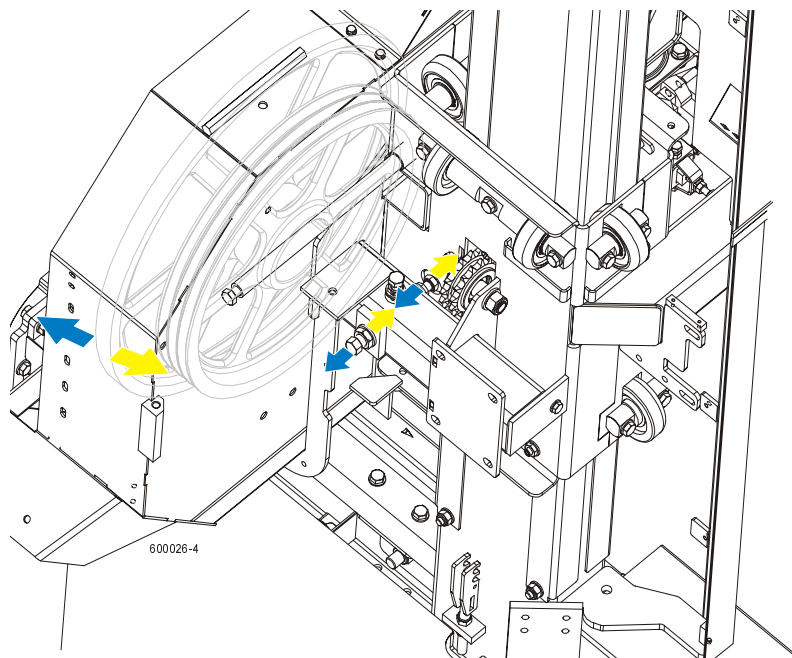

**FIG. 8-22**
**See Figure 8-22.** Use the cant control adjustment to adjust the idle-side blade wheel. If the blade is too far forward on the wheel, turn the cant control counterclockwise. If it is too far back on the wheel, turn the cant control clockwise.